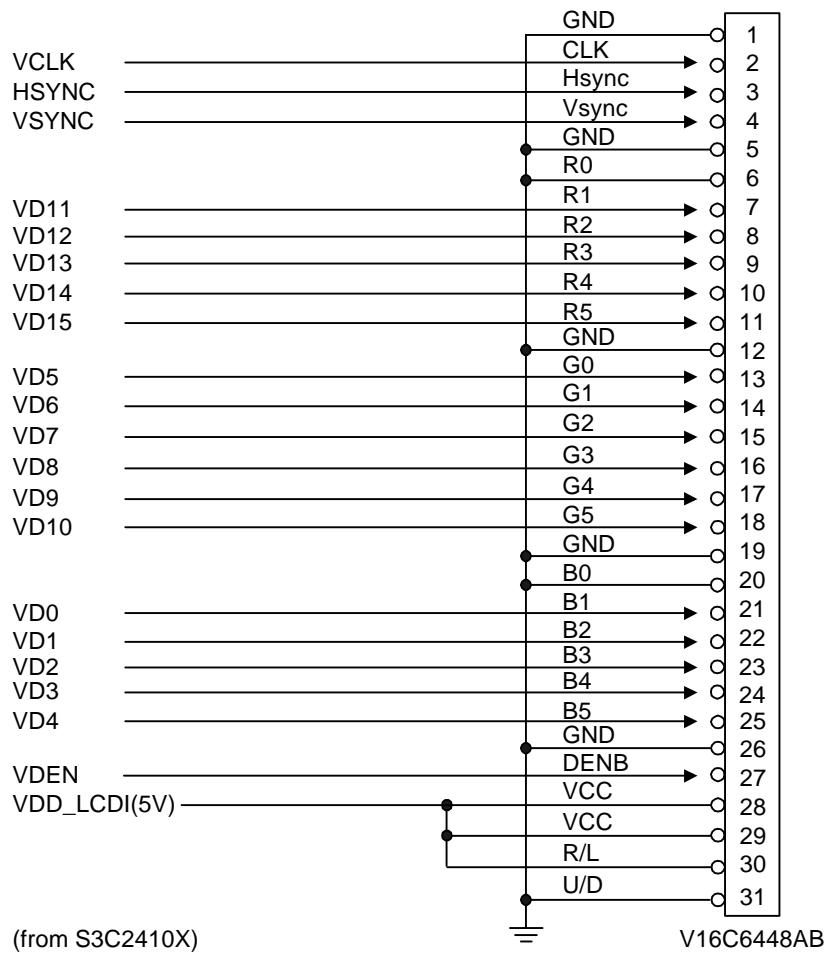

Figure 4-19. V16C6448AB Connection with S3C2410X (TFT LCD)
- V16C6448AB (640x480 TFT LCD) from PRIMEVIEW (refer to Figure 4-19)